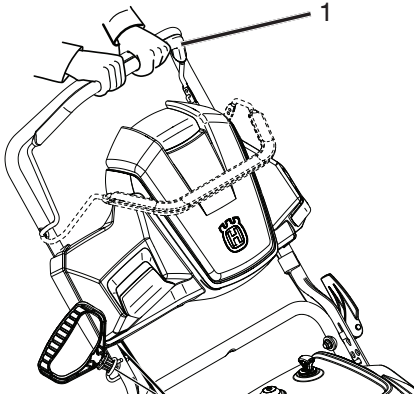

Figure 14
1. To engage the auger blades, hold the control bar against the handle (Figure 14).